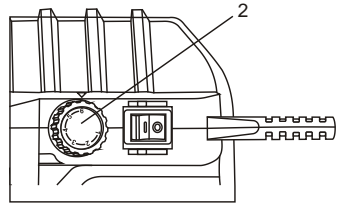

Fig. 6
The sander has variable speed and the speed of the sander can be adjusted as needed. To change the sander speed, rotate the speed control knob (2) (Fig. 6). For the fastest speed, set the speed control knob at #6. For the slowest speed, set the speed control knob at #1.